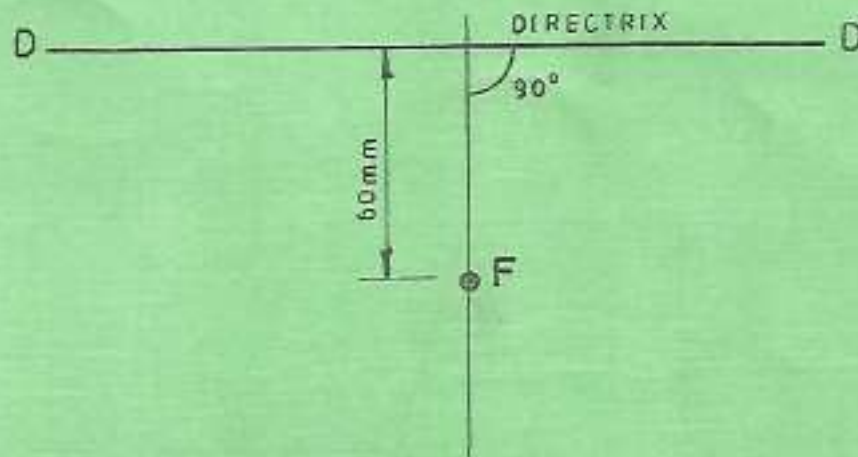

Fig. 2
- (c) From the directrix D - D and the focus F given in **Figure 2**, construct a parabola (7 marks)